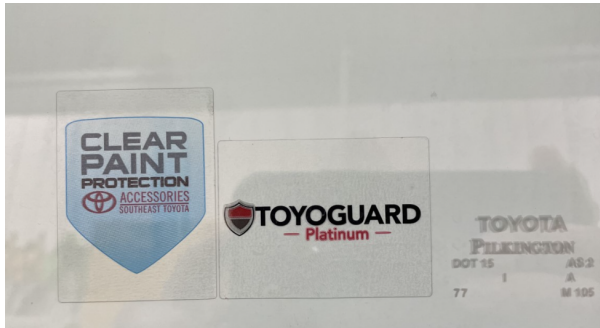

Fig. 6
2. Place information card in glove box. Stickers must be free of bubbles and cannot overlap each other or factory etch. Check for defects in the sticker itself. Fig. 6 & 7.